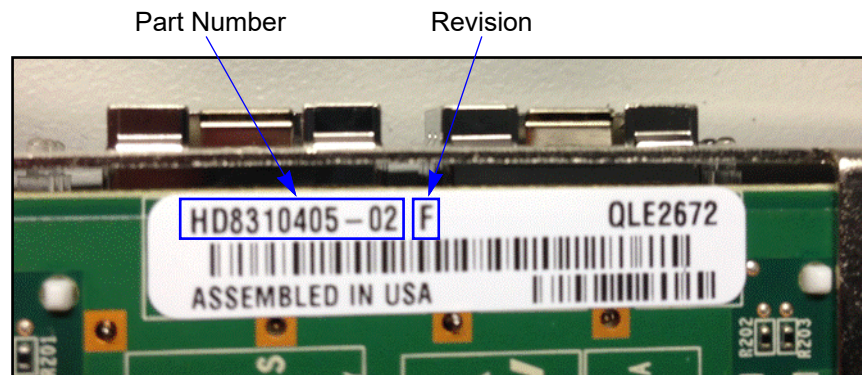

Figure 3-1. 2600 Series Adapter Part Number Location—Physical
- Locate the physical label on the adapter that has the part number (see Figure 3-1), and then check to see if it is listed in Table 3-1.
- In QConvergeConsole CLI **Adapter VPD Information** menu, select a 2600 Series port in the **Adapter Port**. Navigate to **Port Vital Product Data (VPD)** (see Figure 3-1), view the **Engineering Date Code** for the part number, and then check to see if it is listed in Table 3-1.
Some 2600 Series Adapters that support personality change require an *enablement kit* (available on the QLogic Web site) for the change to work. For the adapters listed in Table 3-1 on page 21, revisions A, B, C, D, E, F, and G require the enablement kit; revisions H and later do not. The adapter revision is printed on a label on the adapter (see Figure 3-1 on page 21).